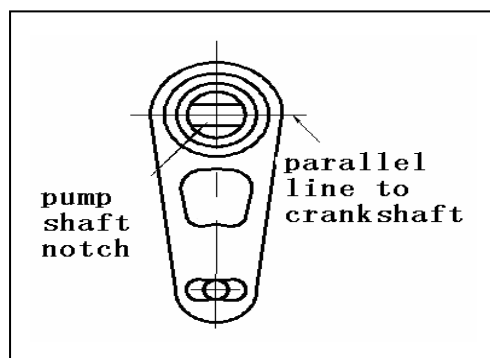

Fig.3-10 *The position of groove in connecting rod in cylinder*
- C .Main points for installing piston and connecting rod assembly. There are fitting marks on piston head and connecting rod shank. Sure that the mark s are in the same direction (refer to fig.3-10) .Be careful to avoid mistakes.
D. When installing piston and connecting rod assembly into cylinders. The marked surfaces of the connecting rod and piston must face the front of engine (fig.3-10).